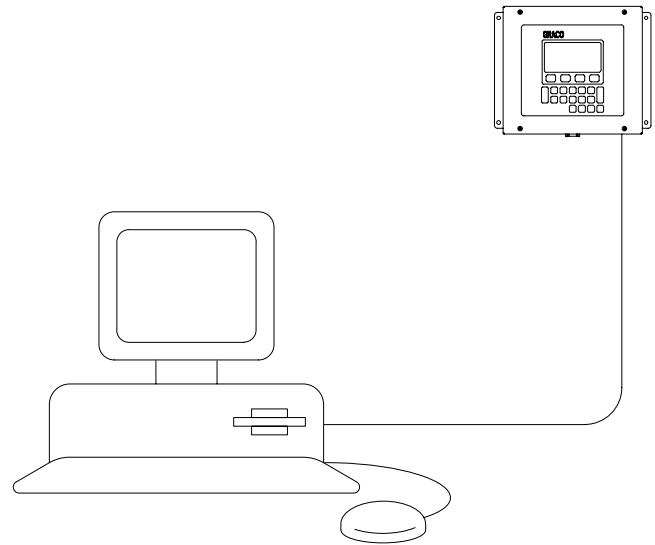

Fig. 13.39
3. Connect the computer cable end (9 pin) to the computer serial port. Connect the other end of the cable (which looks like a telephone jack) to the User Interface. See Fig. 13.39.